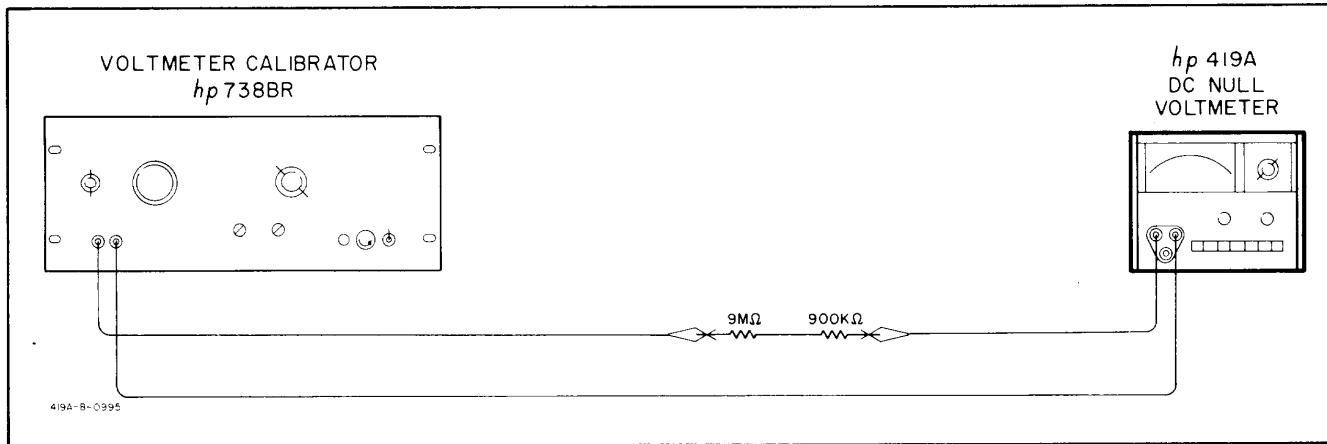

Figure 5-2. Ammeter Accuracy Test Setup
5-12. The ammeter accuracy performance test is illustrated in Figure 5-2. A voltmeter calibrator (-hp- Model 738BR), a 9 M Ω resistor (-hp- Part No. 0698-5443) and a 900 k Ω resistor (-hp- Part No. 0698-5488) are required for this test.
- Connect test setup illustrated in Figure 5-2.